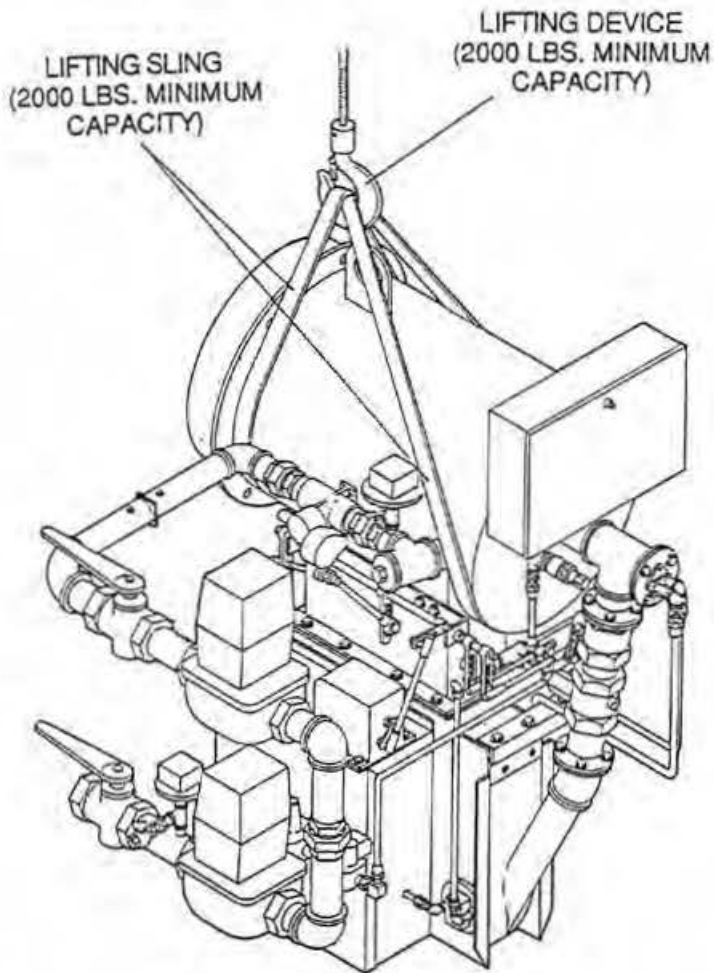

Figure 5. Preferred Burner Lifting Arrangement
REFER TO FIGURES 5 & 6 FOR LIFTING INFORMATION.
10. Place a chain, cable, or belt sling rated for a minimum of 2000 lb. around the burner between the mounting flange on the burner, and the blower. With a properly sized lifting device, pick up the burner. Figures 5 and 6 illustrate the preferred and alternative burner lifting arrangements.